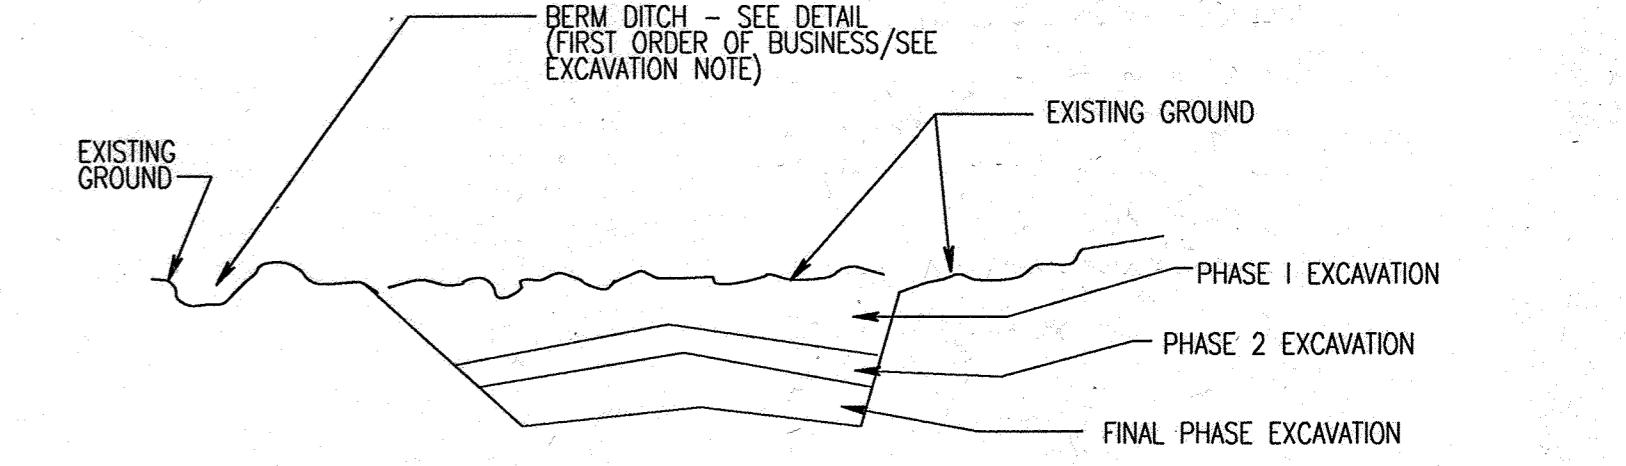

Figure 4 Incremental Stabilization - Cut
- A mulch anchoring tool is a tractor drawn implement designed to punch and anchor mulch into the soil surface a minimum of two (2) inches. This practice is most effective on large areas, but is limited to flatter slopes where equipment can operate safely. If used on sloping land, this practice should be used on the contour if possible.
- Construction sequence (Refer to Figure 4 below):